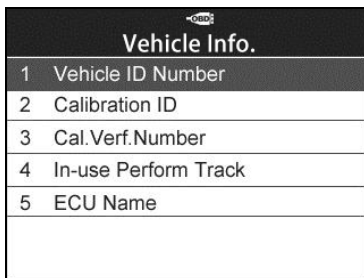

Figure 6.27
- 2) Wait for the scan tool to display the **Vehicle Info.** menu. (Figure 6.27)